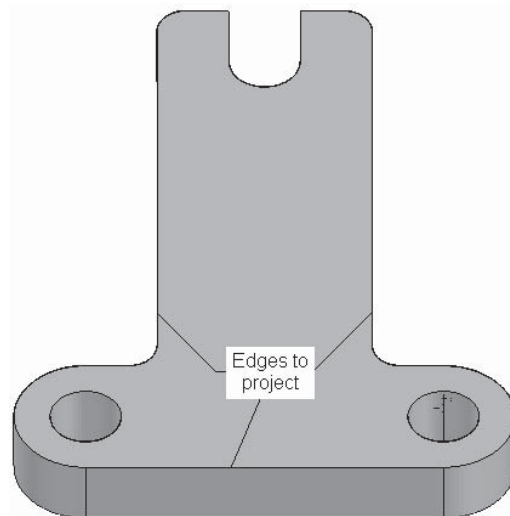

Figure 4-51 *Selecting the entities to project*
8. Make sure the **Include with offset** and **Include internal face loops** check boxes are cleared in this dialog box. Choose **OK** from this dialog box and then select the edges to project, as shown in Figure 4-51.